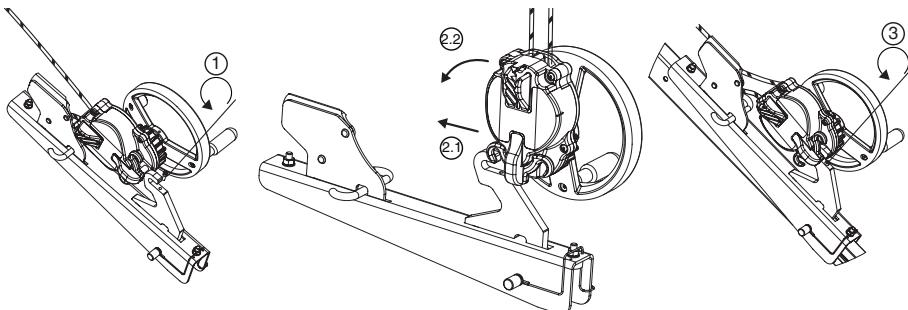

Fig. 8
#### 6.3.4. derope™ descender UP R (Figs. 8, 9 and 10)
The derope™ UP R descender must be secured to the leg of the Tractel® tracpode as shown in Fig.8. Any other mounting position on any other point of the Tractel® tracpode is strictly prohibited.
1. Unscrew the screw securing the hook by which the bracket is fastened to the derope™ UP R descender (Fig. 8,1).
2. Install the derope™ UP R descender on the fastening hook (Fig. 8, 2.1 – 2.2).
3. Screw in the locking screw to prevent the unit from separating from its bracket (Fig.8, 3) and check that it is properly positioned and tightened.